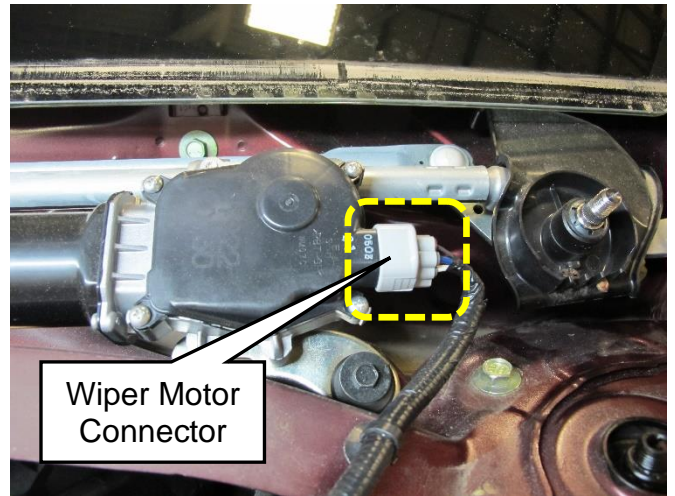

Figure 10
7. Disconnect wiper motor connector (Figure 10).